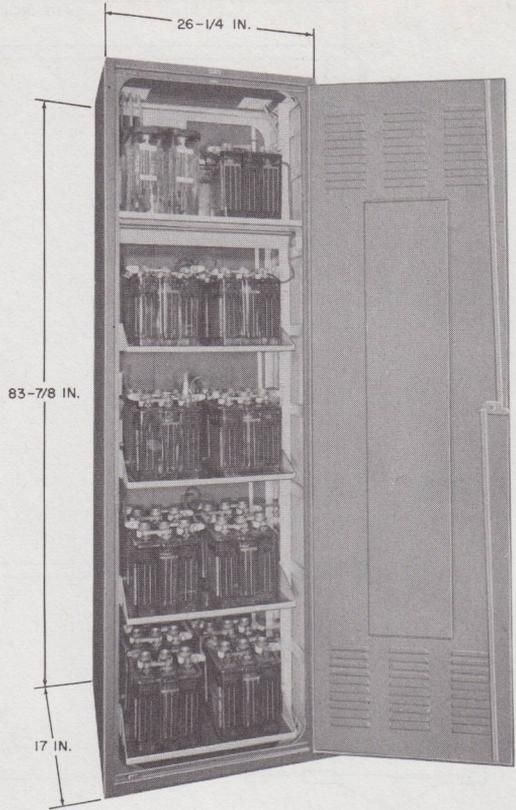

Fig. 13—45-Plate Apparatus Cabinet Per ED-91981-70
2.14 The 45-plate apparatus cabinet per ED-91981-70* (Fig. 13) is a metal cabinet with a hinged door in front and back. The cabinet is drilled for floor mounting. It is shown in Fig. 13 on a housing for storage batteries.